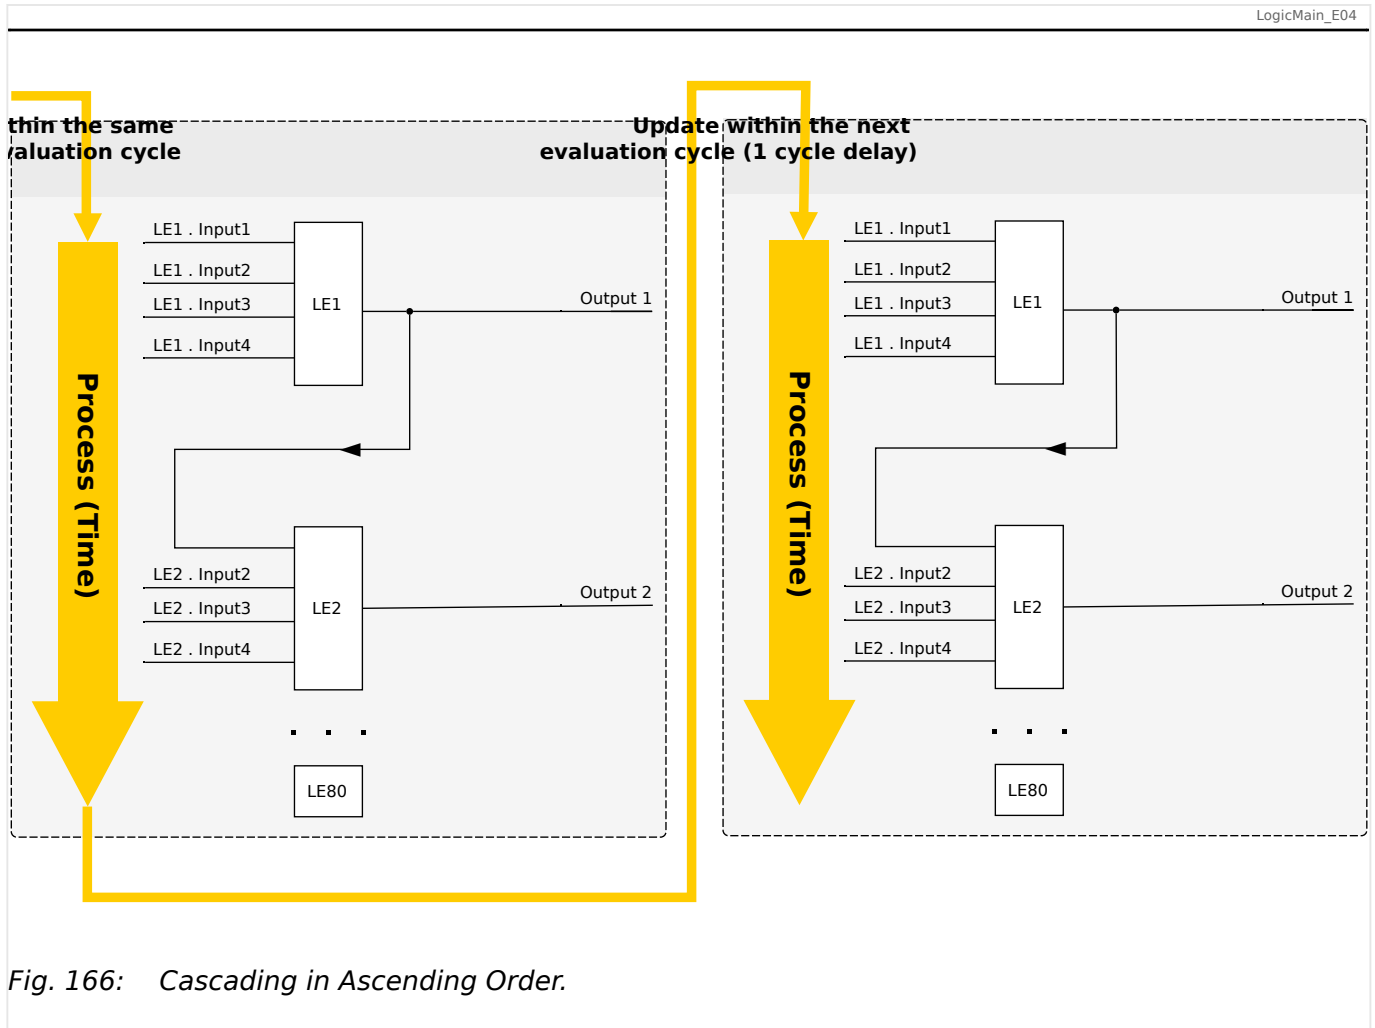
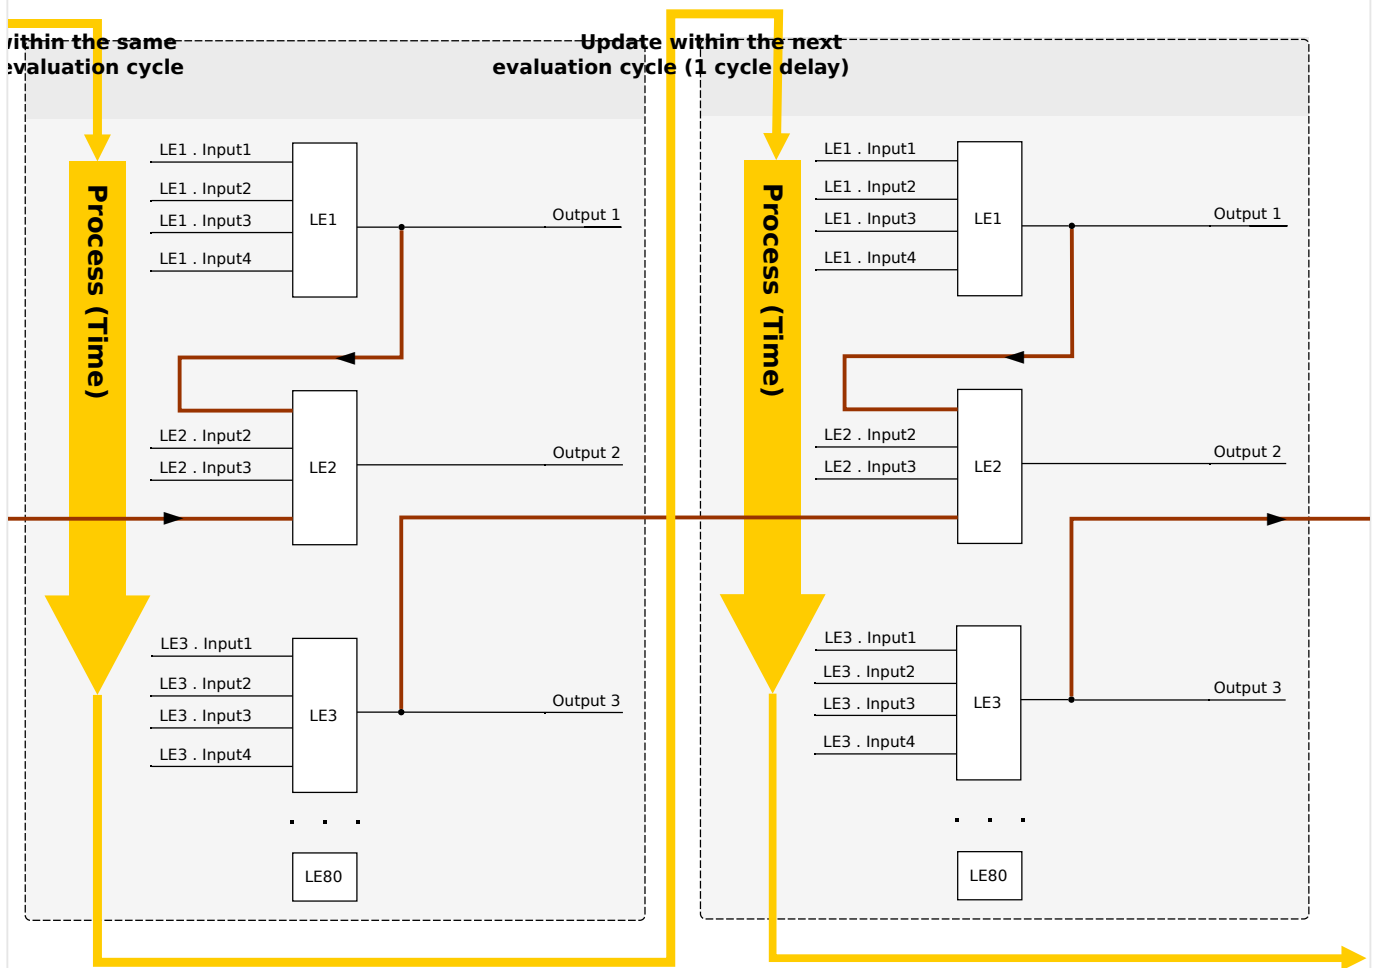

Fig. 166: Cascading in Ascending Order.
Fig. 167: Cascading in Descending Order.
- **Ascending** sequence means that some output is fed into the input of a logic equation with **higher** number. For instance, diagram ↪Fig. 166 below shows an example where the result of Logic Equation LE1 is used as an input of Logic Equation LE2.
- **Descending** sequence means that some output is fed into the input of a logic equation with **lower** number. For instance, diagram ↪Fig. 167 shows an example where the result of Logic Equation LE3 is used as an input of Logic Equation LE2.
Both ascending and descending sequences may be used and combined one with the other, with no immediate difference. However, due to the evaluation of all equations in ascending order the actual run-time values that are fed in at the input of an equation will have a different “age”, as is shown in ↪Fig. 166 and ↪Fig. 167 below.
In the example shown in Fig. 167 above, "Logic Equation 2" uses the output states of two other equations, "Logic Equation 1" and "Logic Equation 3". The result of "Logic Equation 1" is used in ascending order and has therefore been evaluated within the same process cycle. The result of "Logic Equation 3" is used in descending order and has therefore been evaluated in the previous process cycle.